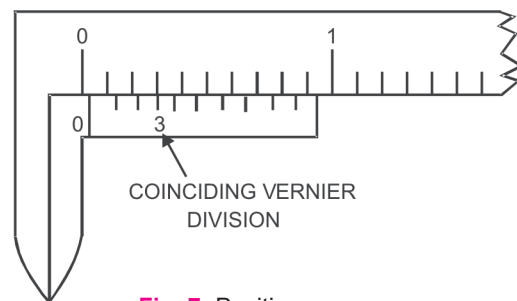

Fig. 7. Positive zero error
- Positive zero error.** Zero error is positive when zero of vernier scale lies to the right of the zero of the main scale, when jaws AB and CD are made to touch each other. To find out the zero error read the main scale reading (N) on the left of the zero of the vernier scale and note down which number of vernier scale division (n) is coinciding with any main scale division. In Fig. 7, we have